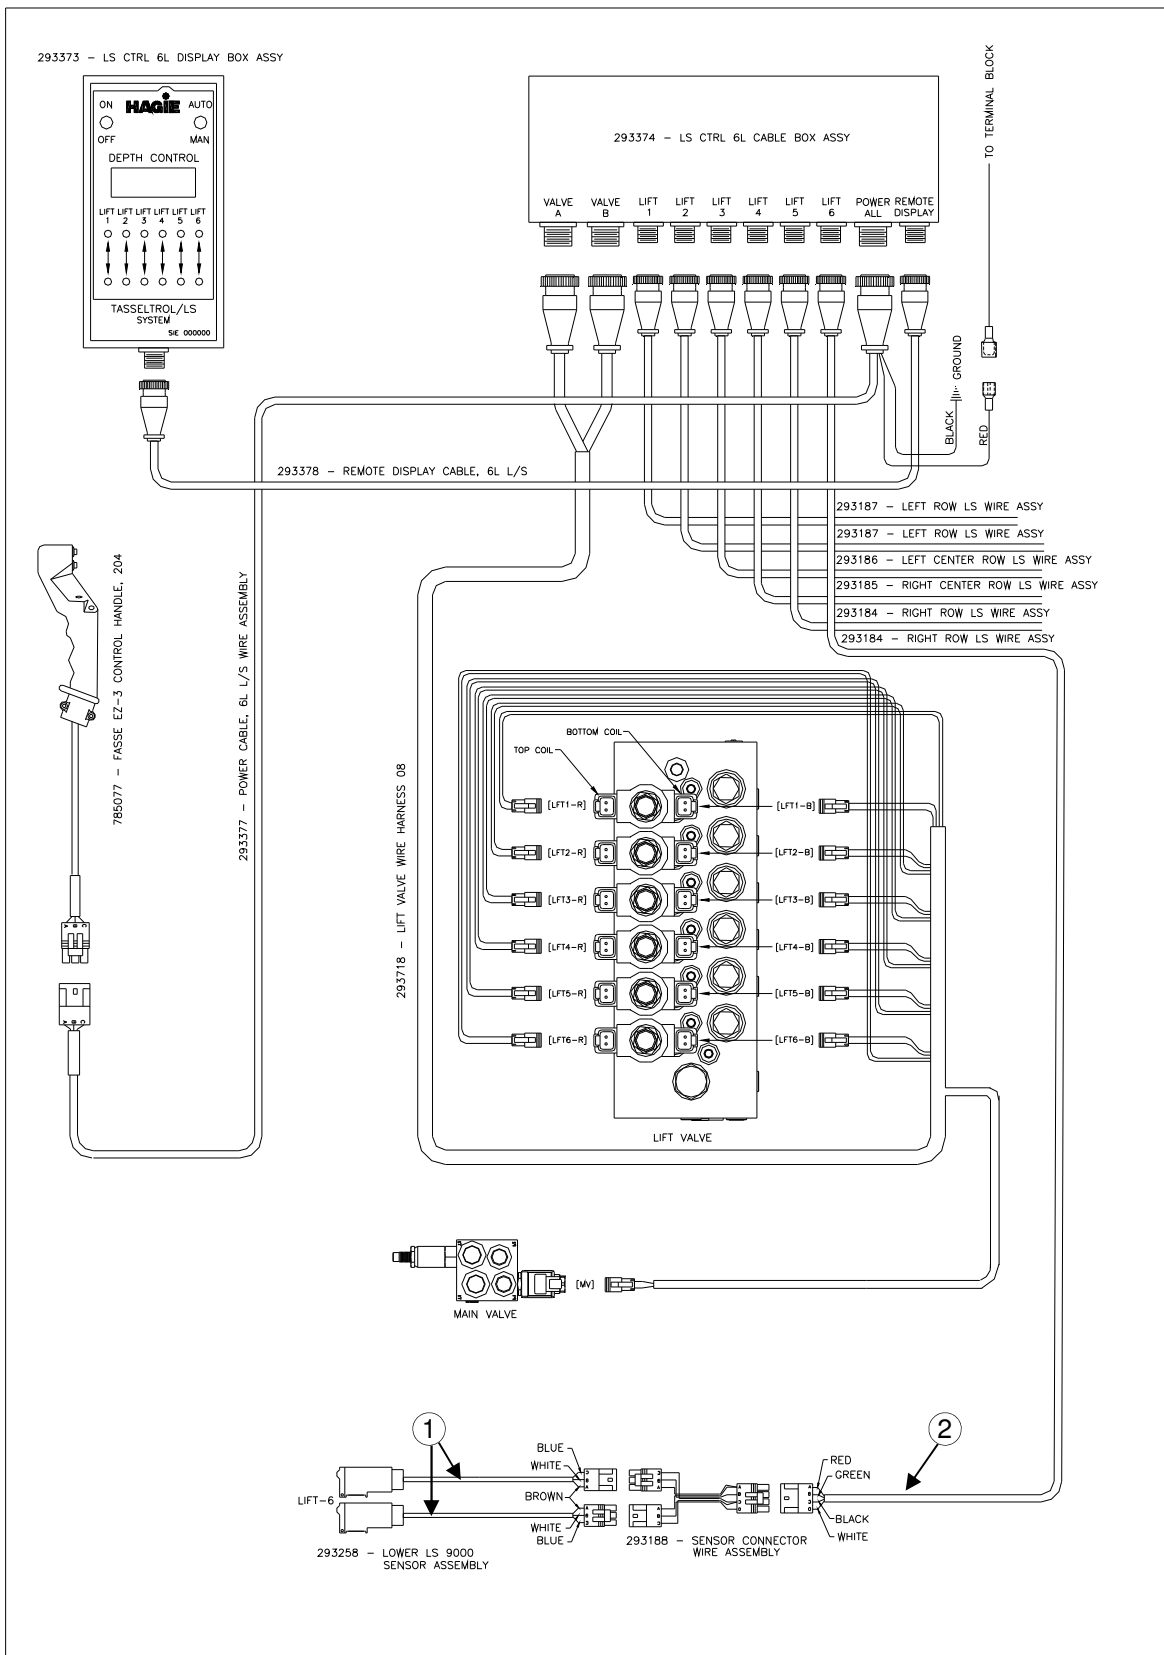

FIG 151.1
No lights at either photo sensor	Faulty connector cable (See page 151, fig. 151-1, item 2) Faulty RED and/or BLACK wire in connector cable (See page 151, fig. 151-1, item 1)
Lights at lower photo sensor	<p>Faulty GREEN wire in connector cable (See page 151 fig. 151-1, item 2)</p> <p>Photo sensor not in line with reflector , call Hagie Manufacturing Customer Support.</p> <p>Faulty BLUE wire in sensor assembly (See page 151, fig. 151-1, item 1)</p>
No lights at lower photo sensor	<p>Faulty RED and/or BLACK wire in connector cable (See page 151, fig. 151-1, item 2)</p>
Lights at upper photo sensor	Faulty WHITE wire in sensor assembly (See page 151, fig. 151-1, item 1) Faulty BLUE wire in sensor assembly (See page 151, fig. 151-1, item 1)
No lights at upper photo sensor	Faulty RED and/or BLACK wire in connector cable (See page 151, fig. 151-1, item 2)